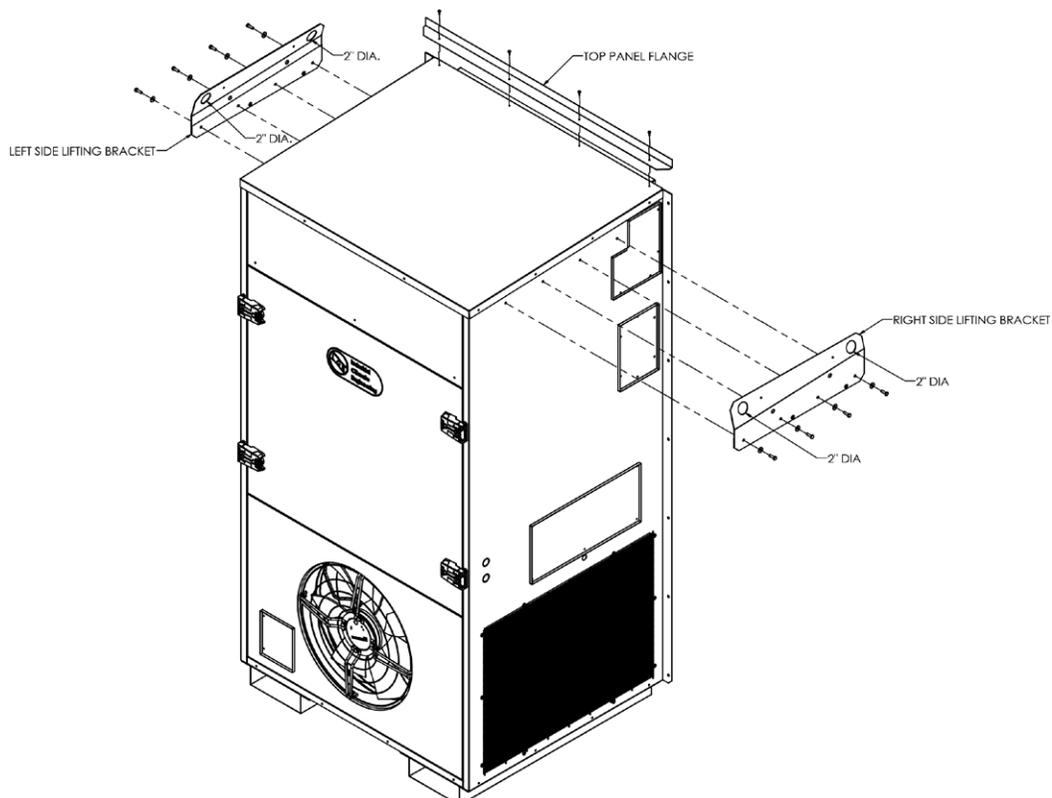

Figure 3 Top Flange and Lifting Bracket Installation (Typical)
2.5 Top Flange Installation (See Figure 3)
Lifting brackets are available which can be installed on the top of the side panels. These brackets allow the unit to be picked up using lifting eyes in the brackets. Attach the brackets to the left and right side panels as shown in Figure 3. The MGH units are shipped with the 4 screws for attaching the brackets installed in the holes at the top of the side panels. When attaching the brackets, remove and reinstall the screws and make sure the top of the bracket is angled towards the center of the unit.